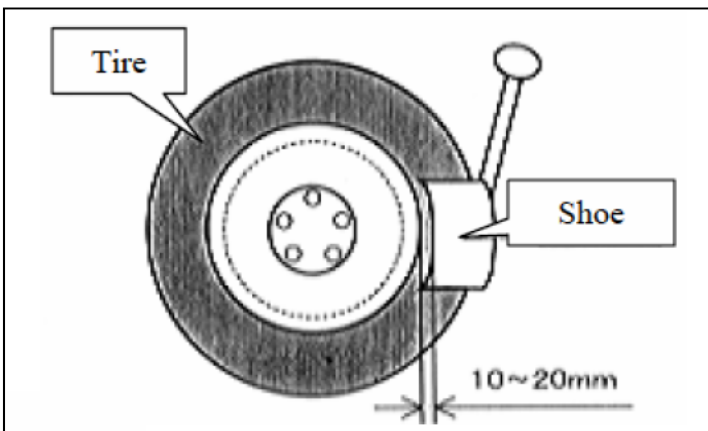

Figure 5
- Carefully separate the upper tire bead from the wheel rim. See Figure 5.